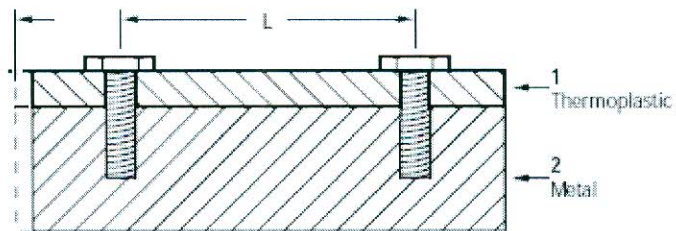

Figure 2: Automotive assembly involving plastic and metal screw
3. [a] For the design of assembly as in Figure 2, two different materials of plastic and metal are commonly mounted in automotive compartment. Explain **two** types of deformation experienced by the materials and discuss how to eliminate the buckling effects.